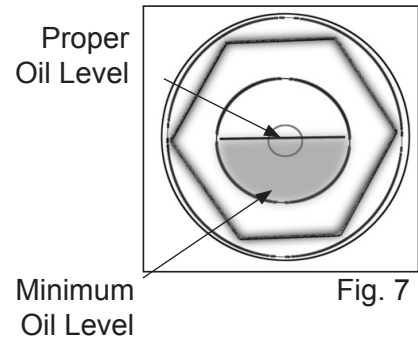

Fig. 7
4. Slowly pour the oil into the Oil Fill Hole until the oil level rises to the center of the red dot on the Oil Sight Glass (Fig. 7).